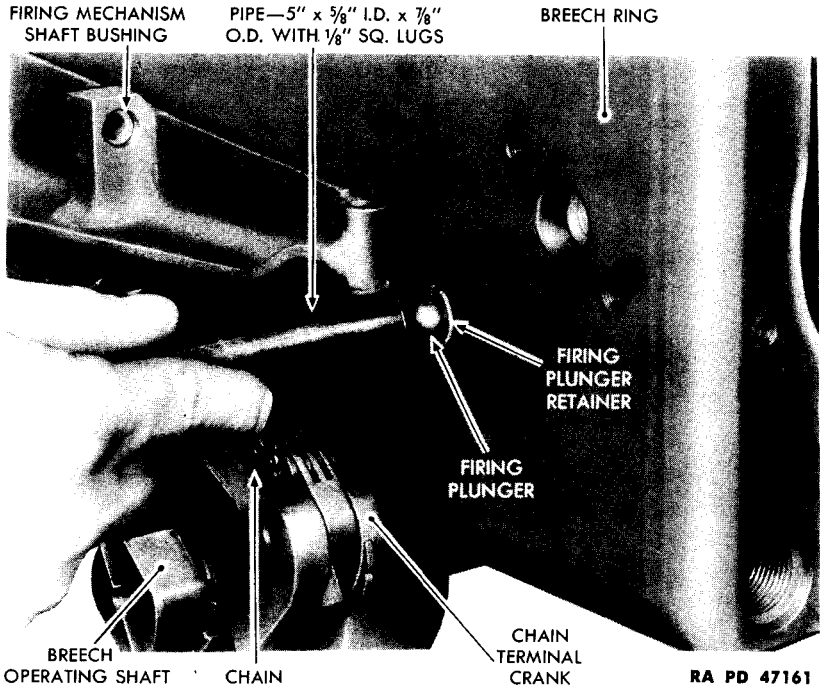

Figure 55 — Removing Firing Plunger
NOTE: Do not remove plunger from breech ring unless it has been broken. In that case make an improvised wrench from gas pipe or electrical conduit ($\frac{3}{8}$ -inch I.D. by $\frac{7}{8}$ -inch O.D. by $\frac{1}{8}$ -inch square lugs on end) and use it to unscrew retainer and remove retainer and plunger from breech ring (fig. 55).
(1) Aline bushing with hole provided in cradle, then start bushing into hole in cradle. Using improvised driving rod (par. 28 b (7)), drive bushings into position in cradle.
(2) Remove burs from bushings caused by driving tool during installation. Smooth ends of bushings with fine-cut file and polish with CLOTH, crocus. The other bushing is installed in the same manner.
(3) Place firing plunger in hole provided in breech ring with long section of plunger entering ring first (figs. 50 and 55). Then screw on retainer which secures plunger in ring (fig. 55). Tighten with improvised tool and small Stillson wrench.